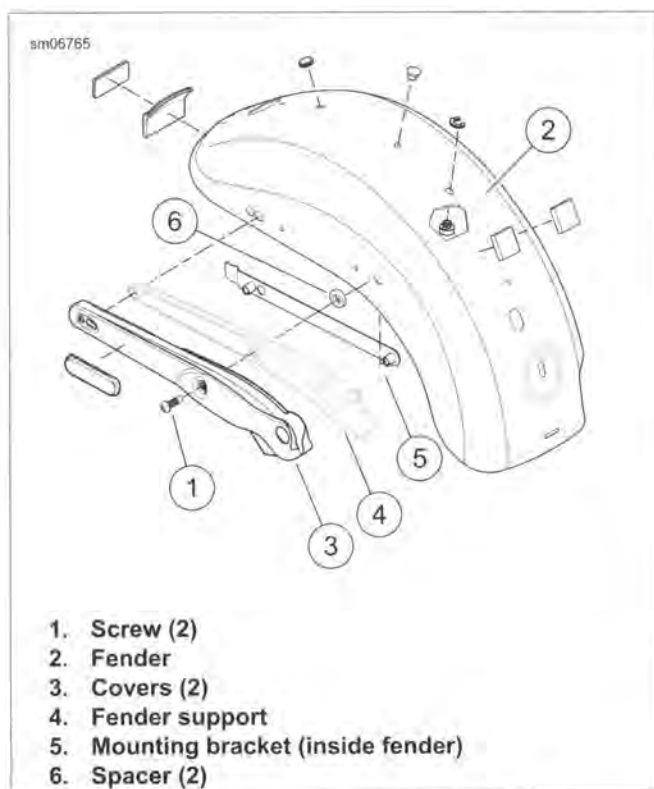

Figure 2-142. Rear Fender: FXDWG
3. See Figure 2-142. Remove screws (1) and spacers (6) that hold fender in place and carefully remove fender from fender supports (4).
2. See Figure 2-142. Apply LOCTITE 243 MEDIUM STRENGTH THREADLOCKER AND SEALANT (blue) to the threads of screws (1). Place fender (2), covers (3), mounting bracket (5) and spacers (6) into position. Tighten screws (1) to 12-18 ft-lbs (16.3-24.4 Nm).